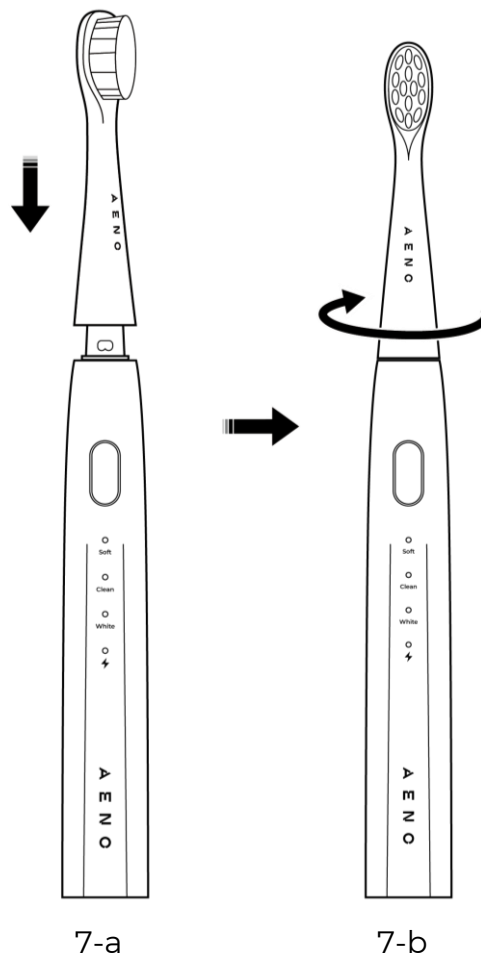
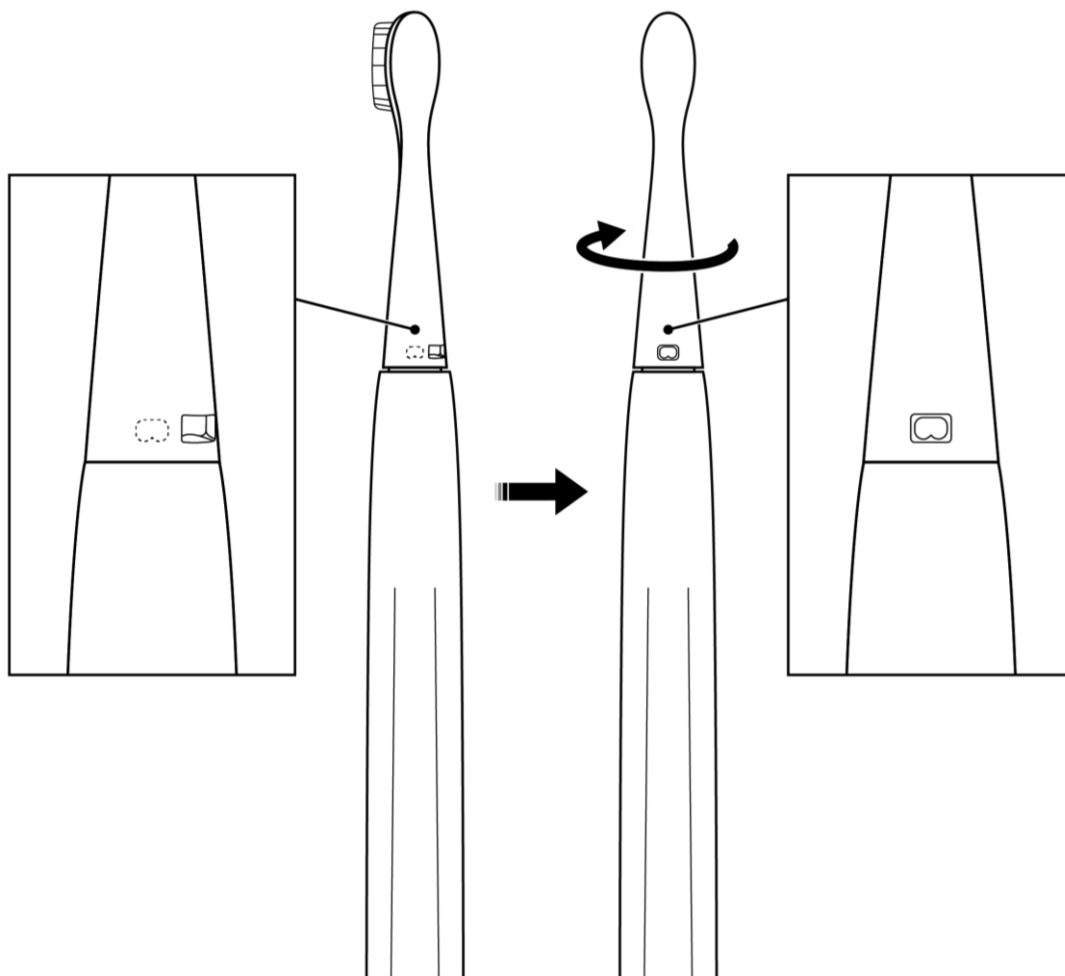

Figure 7 – Installing the Replacement Brush Head (Front View)
Figure 8 – Installing the Replacement Brush Head (Back View)
1. Place the brush head on the toothbrush handle so that they fit tightly. The bristles of the brush head should be pointed in the direction shown in Figure 7-a.
2. Turn the brush head clockwise (see Figure 7-b). When properly installed, the tab on the toothbrush handle will slide into the groove on the brush head and you will hear a click (see Figure 8).